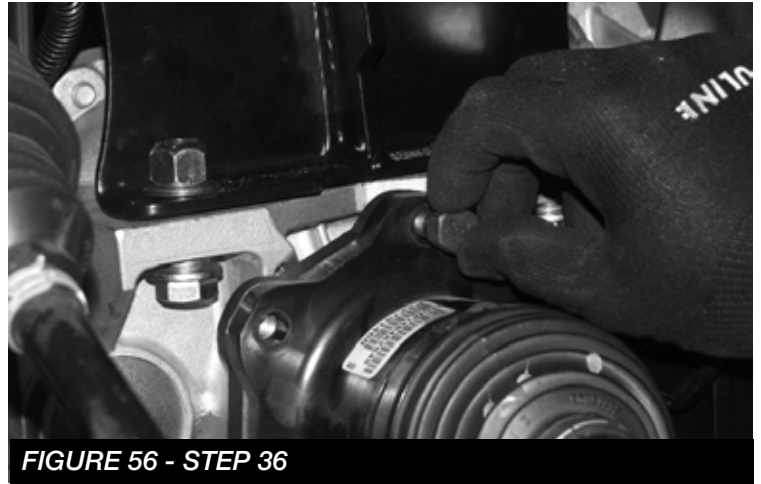
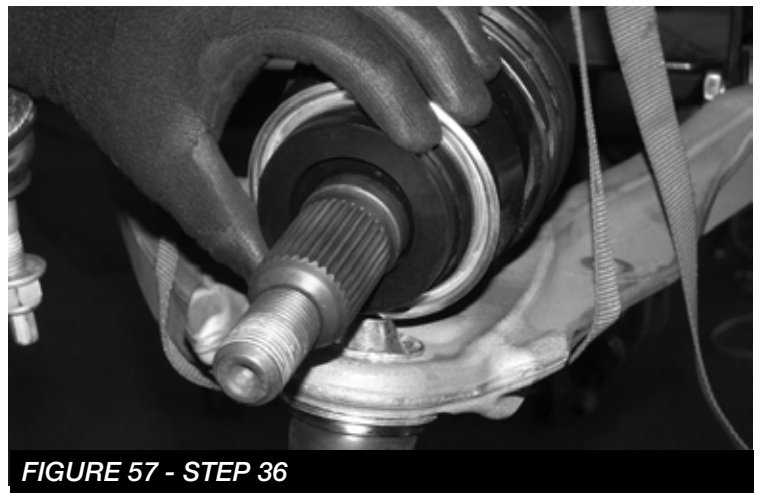

FIGURE 56 - STEP 36
FIGURE 57 - STEP 36
36. Locate the drivers side axle shaft, factory hardware and FT20664 (Axle Shaft Spacer). Using thread lock install the Axle shaft to the differential **SEE FIGURE 56**, Torque to 55 ft-lbs. Install FT20664 (Axle Shaft Spacer) onto the axle **SEE FIGURE 57**.